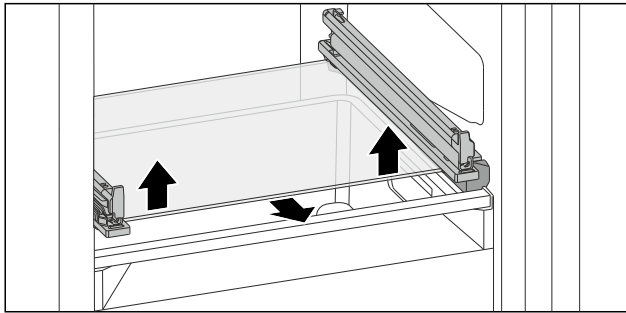

Fig. 104 Tilting drawer glass shelf
- ▶ Push glass shelf upwards from below on both sides. (see Fig. 104)